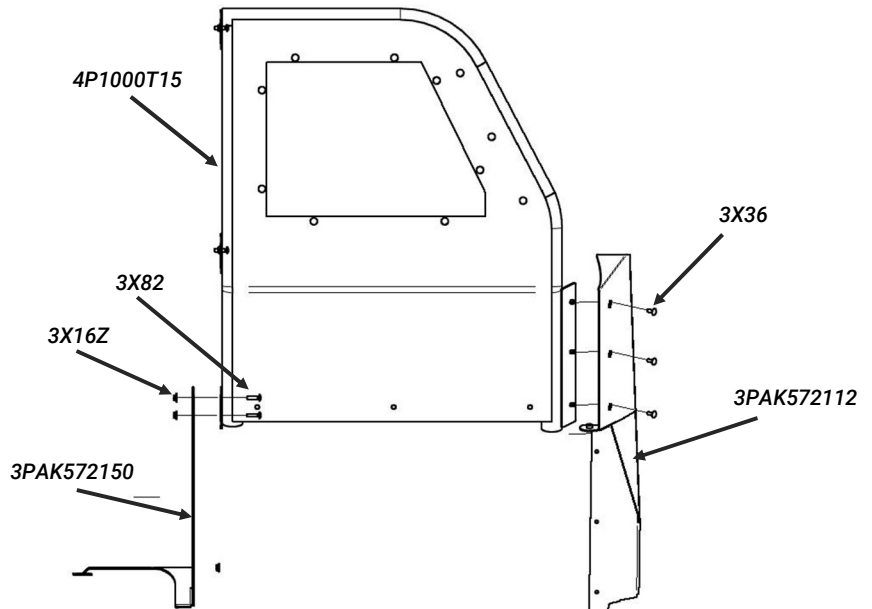

Figure 4
- A. Prepare (3) carriage bolts [3X36] and (3) whiz nuts [3X16Z] on the passenger side of the vehicle and (2) carriage bolts [3X82] and (2) whiz nuts [3X16Z] near the center of the vehicle.
- B. Position the partition [4P1000T15] between the mounting plate [3PAK572112] and the center mount bracket [3PAK572150] inside the vehicle (Fig 4).
- C. Align the (3) uppermost holes in the mounting plate with the respective holes in the partition then loosely secure with the shorter carriage bolts [3X36] and whiz nuts [3X16Z] prepared in the Step A. Install the fasteners such that the smooth head of the carriage bolt is facing towards the outside of the vehicle. The fasteners will be tightened in a later section.
- D. Align the (2) lowest holes on the inboard section of the partition with the top (2) holes on the center mount bracket. Loosely install the long carriage bolts [3X82] and whiz nuts [3X16Z] prepared in step A.